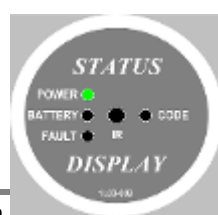

Fig 2
- Where there is a status monitor - **Fig 2** fitted to the top of the bath the Green LED should be illuminated.